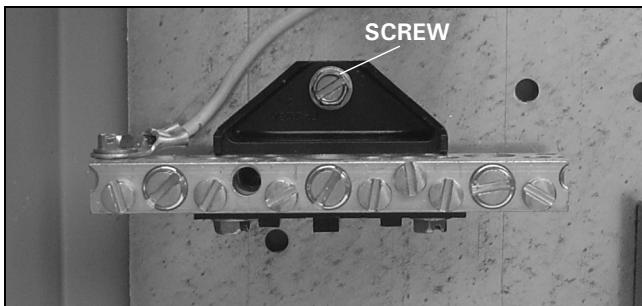

Figure 36. Replacing the 100 A Neutral Bar.
- Step 4:** Remove the screw in the black base using a blade screwdriver or 0.25 in. socket or nut driver. Remove the neutral bar (see Figure 36)